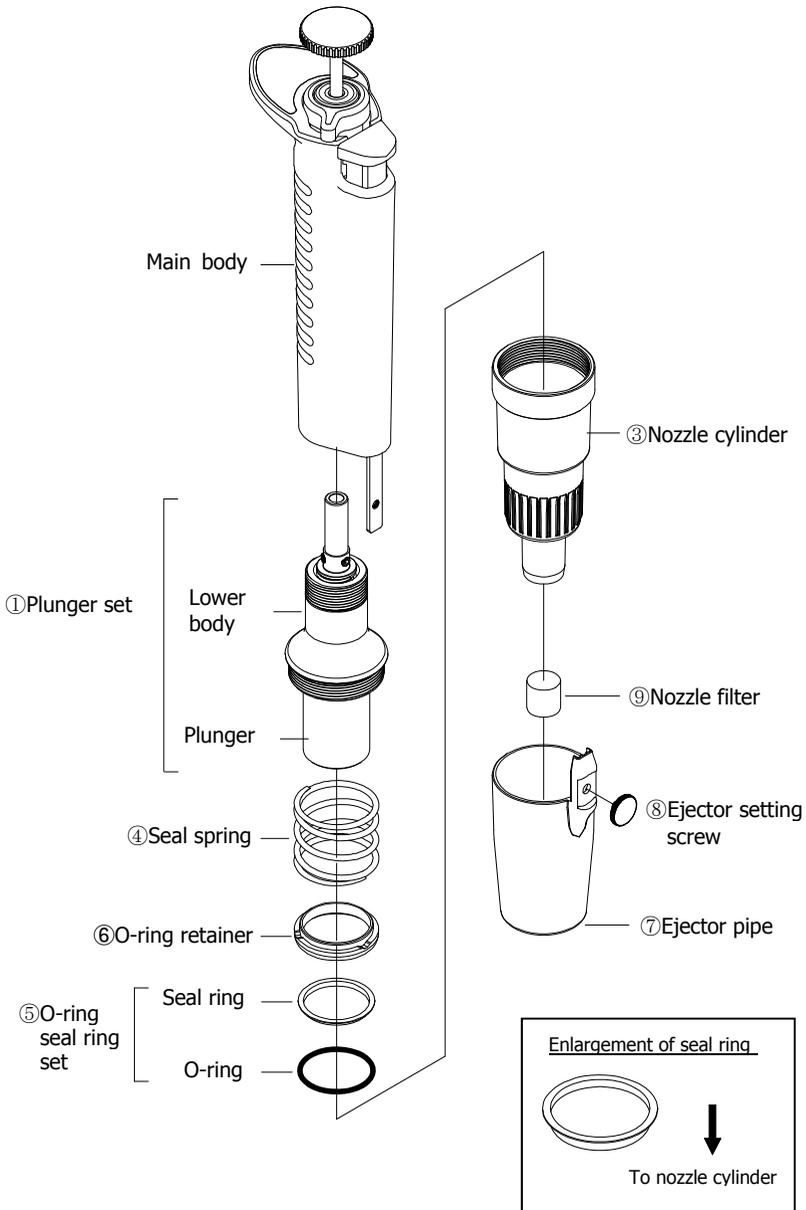
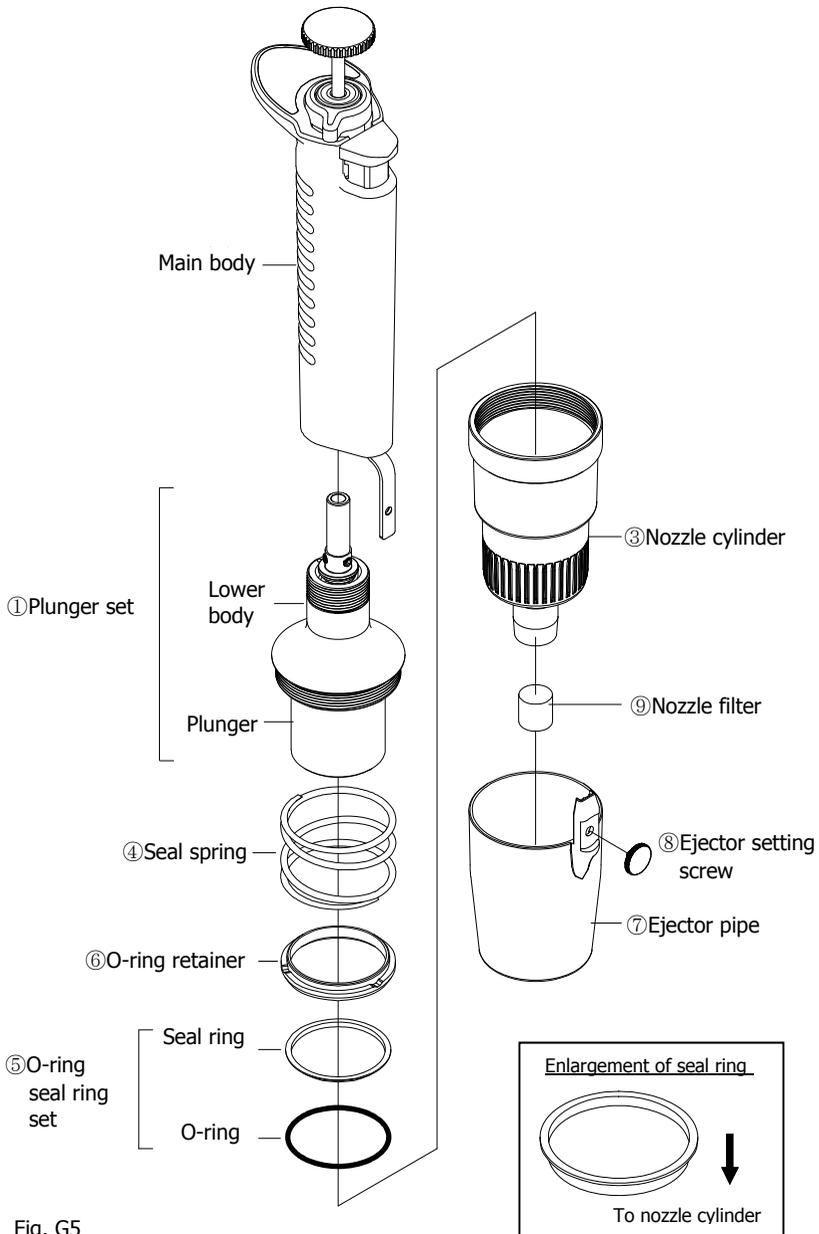

Fig. G4
Fig. G5
- For Models: 5000 μ L: (Fig. G4) and 10000 μ L (Fig. G5), remove the seal spring, O-ring retainer, O-ring and seal ring in the nozzle cylinder.
- For Models: 5000 μ L (Fig. G4) and 10000 μ L (Fig. G5)
Circled Numbers in (Fig. G4) corresponds to Parts Numbers in the replacement parts list.
Circled Numbers in (Fig. G5) corresponds to Parts Numbers in the replacement parts list.